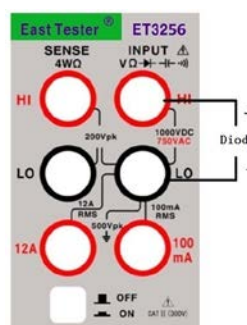

Figure 4-20 Wiring method
2. Connect the red and black test leads to the corresponding input terminals as shown in Figure 4-20.